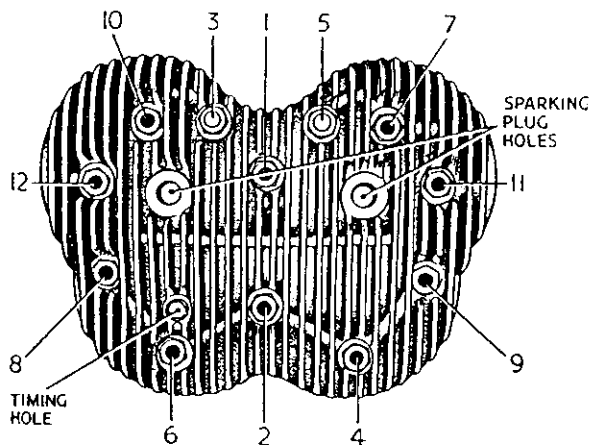

Fig. 25. To Tighten the Cylinder Head Nuts.
- (2) Place the joint washer and cover in position. Make sure that the two internal levers are under the exhaust tappet adjuster heads. Place two fibre washers over the cover studs and replace the two domed nuts. Tighten evenly.
53. Thread the cylinder head gasket over the cylinder head studs. Place the cylinder head in position. Screw down all the nuts finger tight and then tighten down in the sequence shown in Fig. 25. Replace the spark plugs. The engine is now ready for fitting into the frame.